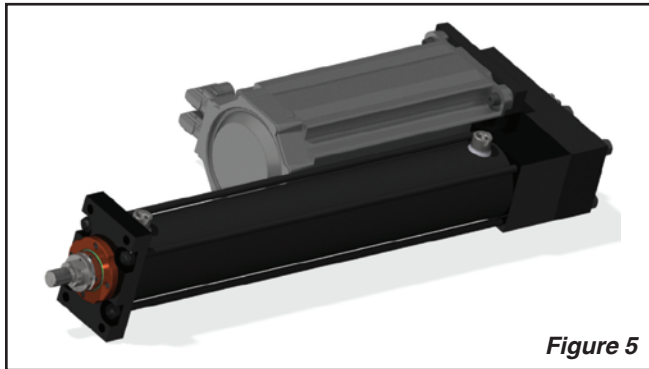

Figure 5
1. Once the oil has been drained from the actuator, position the oil port to point up (Figure 5).